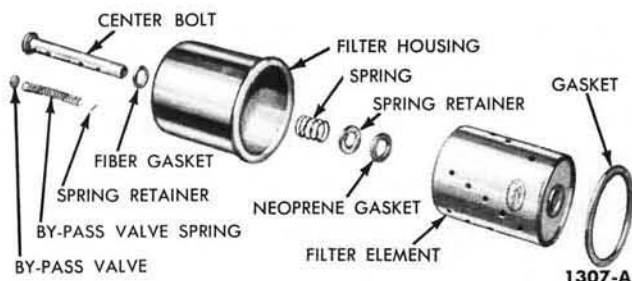

FIG. 48—Oil Filter Disassembled
1. Remove the filter element, neoprene gasket, spring and seat, then remove the center bolt from the container and the fiber gasket from the bolt (Fig. 48).